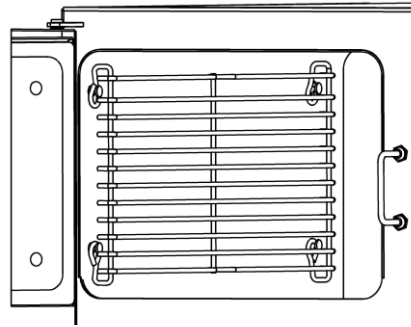

Figure 3-1
1. Refer to Figure 3-1. Each rack has four loops: two top, and two bottom. Hold the slide rack so the ends of the hanger loops are towards compartment wall, as shown in Figure 3-1.